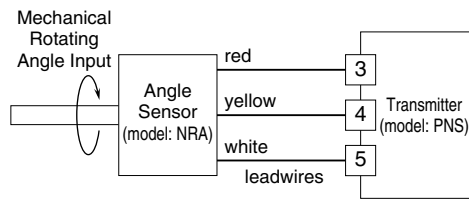

Figure 3. Wiring diagram for connecting the NRA to the PNS.
- The Angle Sensor Transmitter (Models: PNS, PNT, etc.) is recommended for connection. Wiring diagram is as shown in Figure 3.